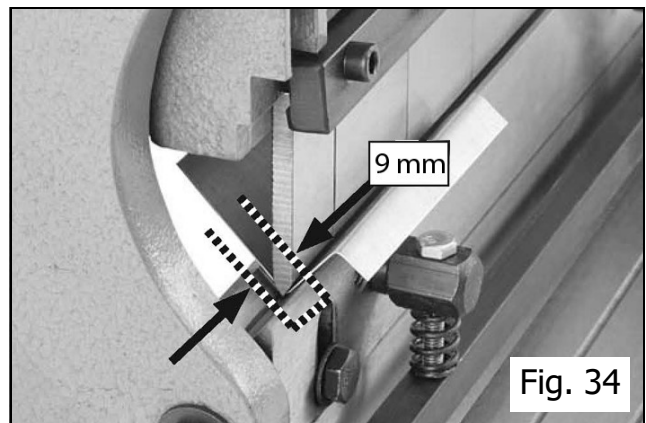

Fig. 34
4. If a reverse bend is required, re-install the workpiece upside-down, as shown in Figure 34, and repeat Steps 2-3.